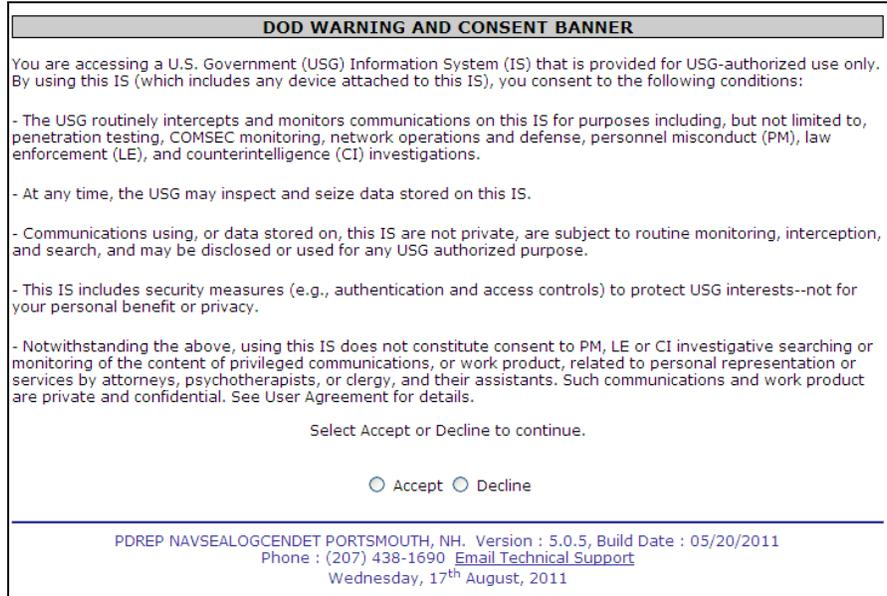

Figure 1.3
- d. DoD personnel possessing Common Access Cards (CAC) should click DoD Logon. The Warning and Consent Banner (Figure 1.3) displays.